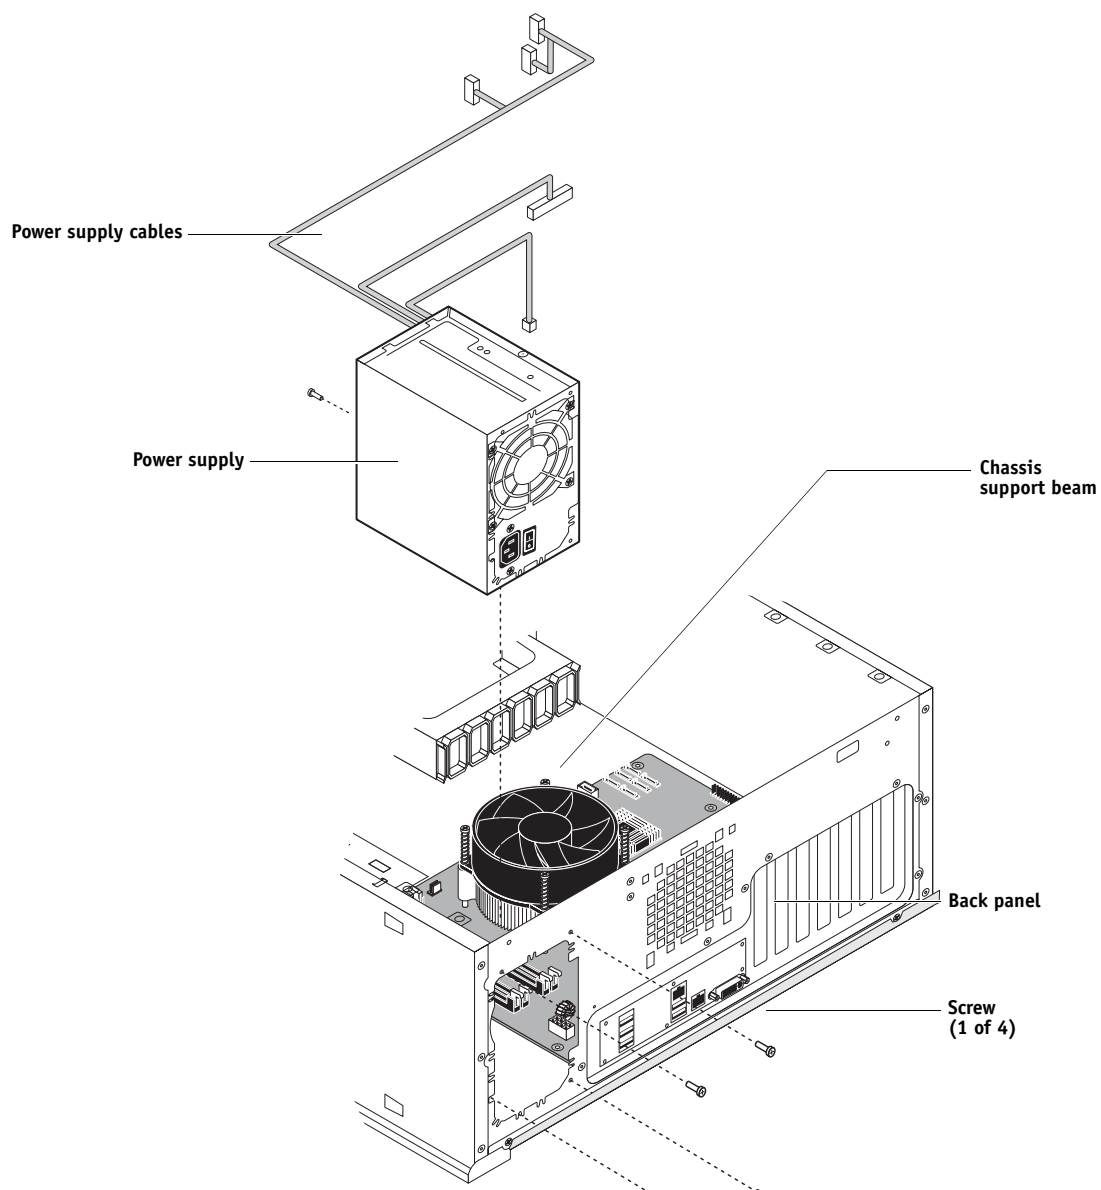

FIGURE 17: Removing/replacing the power supply
- 8 **Remove four of the five screws that attach the power supply to the back of the chassis (see Figure 17 on page 50).**
- 2 Attach the power supply to the chassis with the five screws that you removed earlier (see Figure 17 on page 50).**
- 8 Locate the reusable tie-wrap that you removed earlier and use it to attach the loose section of the power cable to the chassis support beam (see Figure 17 on page 50).**